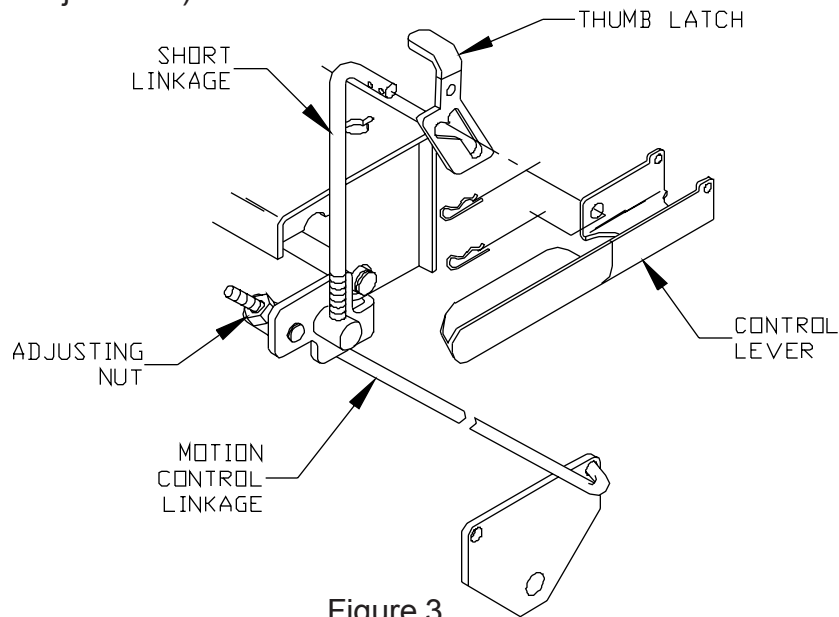

Figure 3
5. Turn the adjusting nut the proper direction until the wheel stops rotating. This is your neutral position, repeat on other side. (see fig. 3)
6. After the neutral position is adjusted. You will need to readjust the short linkage. (see fig. 3)
7. Remove the two hairpins, swing the linkage out of the control lever and the thumb latch. (see fig.3)
(see fig. 3)